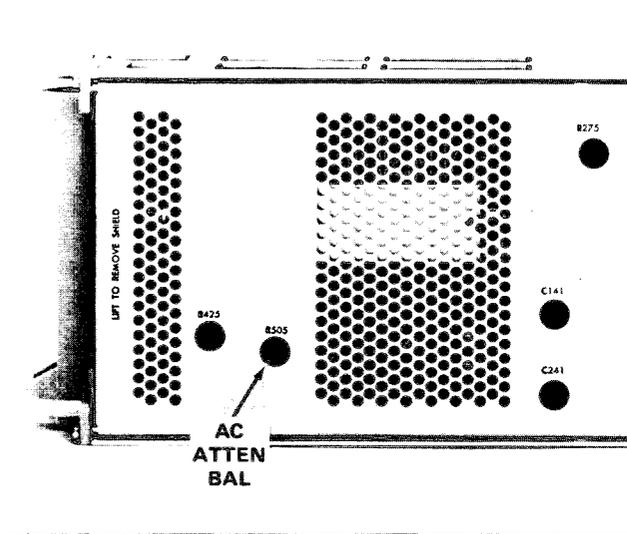

Fig. 2-2. Location of AC ATTEN BAL control.
1. AC ATTEN BAL (**internal adjustment**). When the LOW FREQ -3 dB POINT switch is used to limit the low frequency response of the Type 7A22, the unit employs AC stabilization. This means that when the switch is set to any position except DC or DC OFFSET, the STEP ATTEN DC BAL and DC OFFSET controls become inoperative. VOLTS/DIV balance is then controlled with the AC ATTEN BAL, an internal adjustment (see Fig. 2-2).
d. Adjust R425 for no movement of trace as the VARIABLE control is rotated from stop to stop. (See Fig. 2-2 for location of adjustment.)